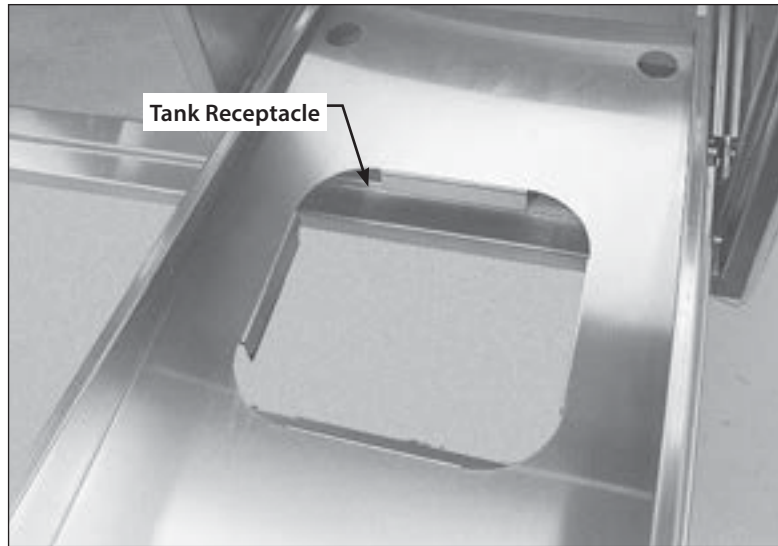

Fig. 14
5. Your LP tank will be installed in the recess provided in the bottom of the right compartment (Fig. 14).